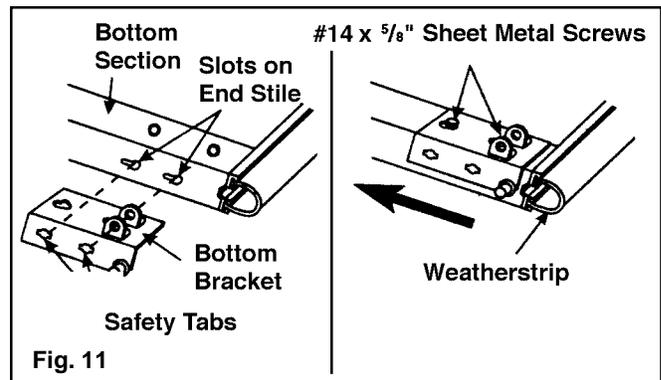
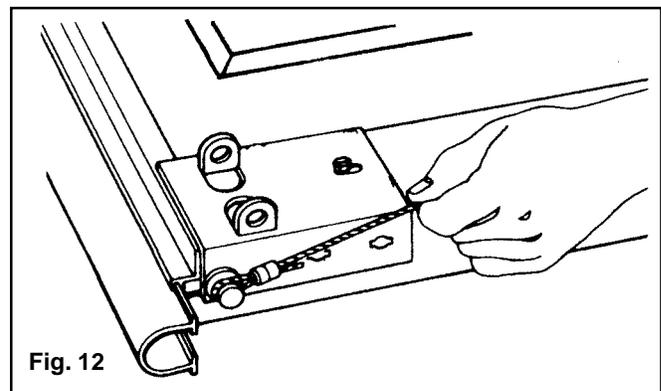

Fig. 11
Fig. 12
**Step 3:** Insert safety tabs on bottom bracket into slots on end stile of door. Slide bottom bracket up to fully engage tabs (FIG. 11). Attach all hardware with #14 x 5/8" sheet metal screws. Attach the bottom brackets with two screws to the bottom corners of the section. Screws go into the end stiles. Hook the looped ends of the steel lift cable over the buttons on the bottom brackets. (FIG. 12)